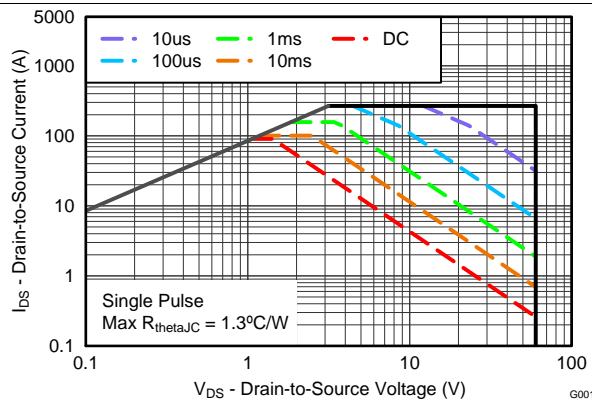

Figure 10. Maximum Safe Operating Area
• Updated SOA in <a href="#">Figure 10</a> .....	6